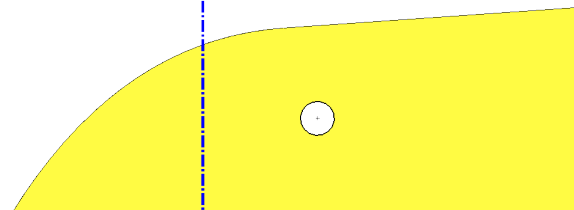

Fig. 77
Step 5. Click **Centerline**  (S) in the **Line flyout**  on the Sketch toolbar.
Step 6. Draw a vertical centerline, **Fig. 77**.